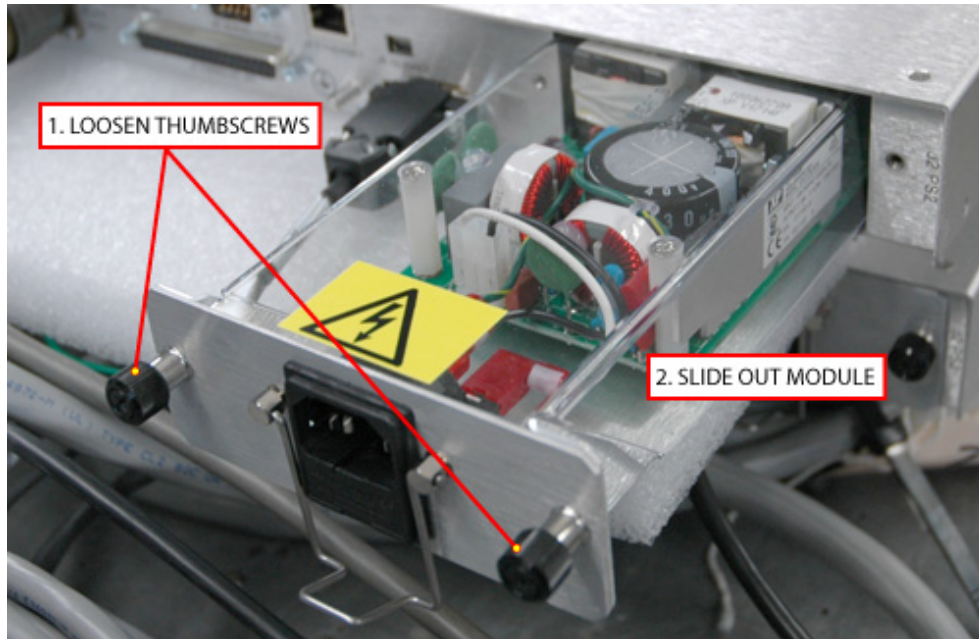

Figure 5: Loosen Thumbscrews and Slide Module from Chassis
2. Loosen the two captured thumbscrews securing the module to the chassis See Figure 5.;